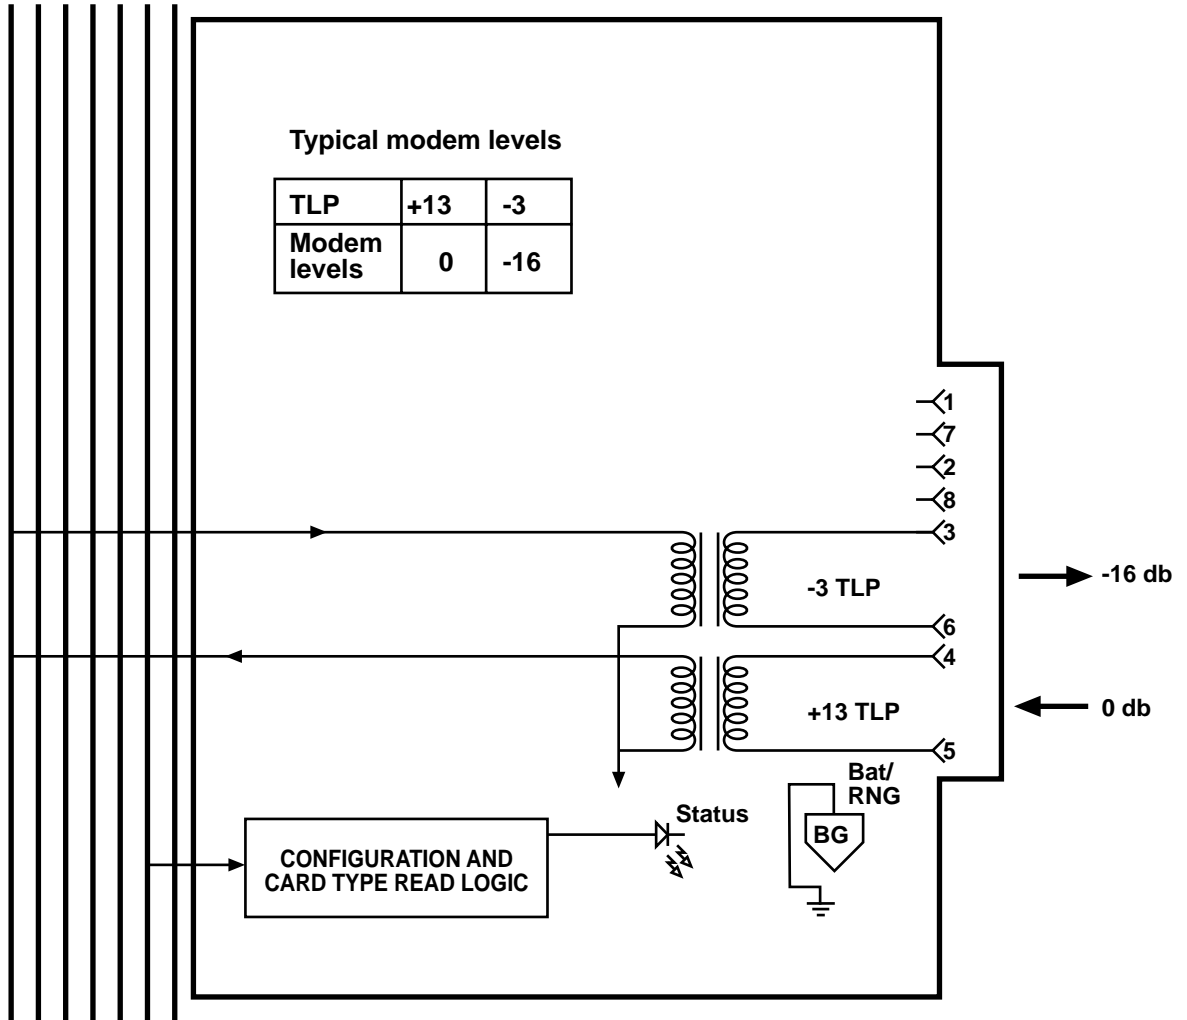

Fig. 6-26. Block Diagram for the 4-Wire Analog Data Rear Plug Assembly.
Fig. 6-26 is a block diagram for the quad 4-wire analog data (AD).